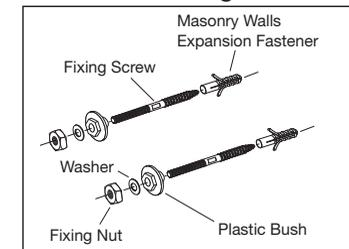

Fig. 2
- 3- Insert expansion fasteners into the drilled holes in masonry wall. Screw D200 fixing screws into one side of the wall using the flats located on the screws section of the stud and spanner as shown in **Fig. 2**. Allow 48mm of thread to protrude from the finished wall.
- 4- Locate basin onto the Fixing Screws on the wall. Insert plastic bushes, metal washers and fasten to wall with fixing nut, as detailed in **Fig. 2**.